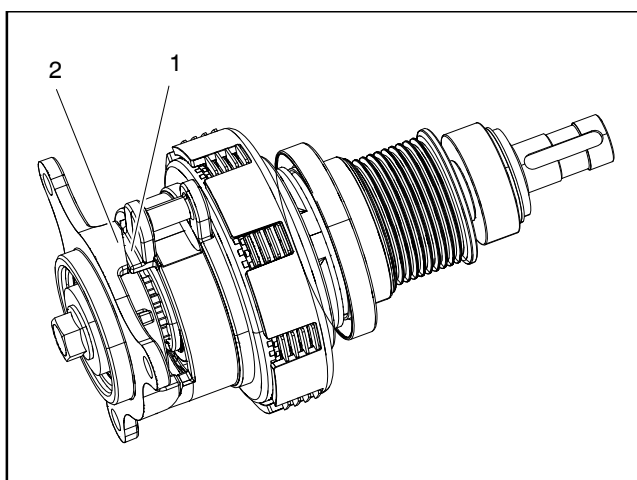

Figure 54
11. Slide flocked seal onto clutch shaft with flocked side orientated toward bearing location. Then, install wave spring (item 3) and flat washer (item 2) onto shaft and secure with retaining ring (item 1).
12. Starting with a clutch disc, install complete clutch pack onto pressure plate (item 20) with attached clutch actuator (item 23) and bearing (item 21).
13. Slide compression spring (item 16) onto clutch shaft.
15. Use a suitable hand clamp to keep pressure plate (item 20) and clutch pulley housing (item 8) secured and spring compressed.
16. Slide clutch cam (item 24) with bearing onto end of clutch shaft. Make sure that ramps of clutch cam align with ramps of clutch actuator (Fig. 54).
17. To allow installation of flange head screw (item 26) that secures clutch assembly to shaft, carefully secure end of clutch shaft in vise. Use a vise with soft jaws to prevent damage to clutch shaft.
18. Secure clutch shaft assembly with washer and flange head screw (item 26).